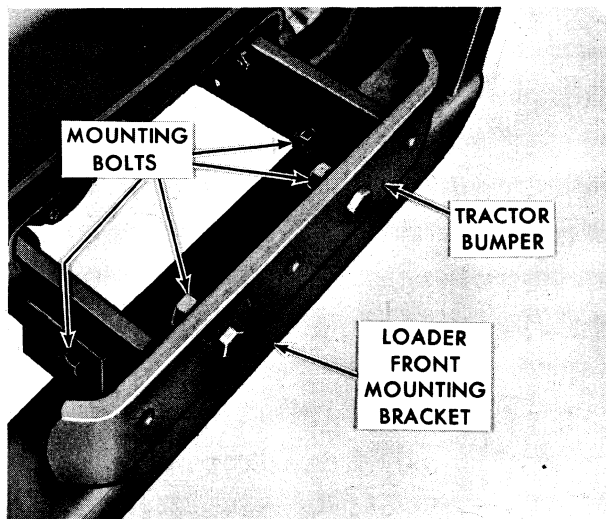

Figure 7
3. Remove the mounting bolts (Figure 7) securing the loader front mounting bracket to the tractor bumper.